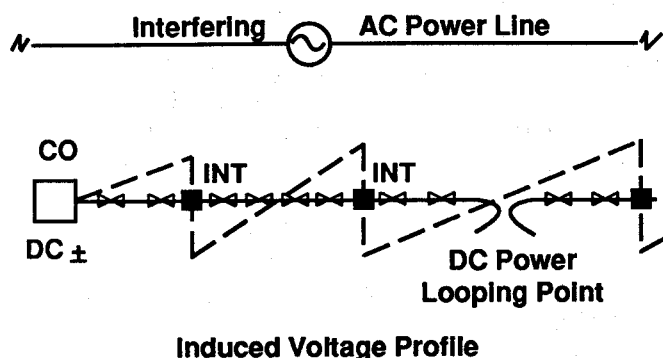

Figure 24: Tandem Digital INT Installation
13.03 Severe power line interference on a digital carrier route may require several Digital INTs in tandem (Figure 24). This is usually done to keep the maximum voltage-to-ground within safe working values over the entire length of the cable route.